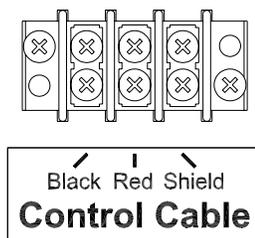

Figure 11 Control Cable Wiring Diagram
3. Connect the control cable to **Control Cable** terminal block on the lower access panel junction chassis according to Figure 11.